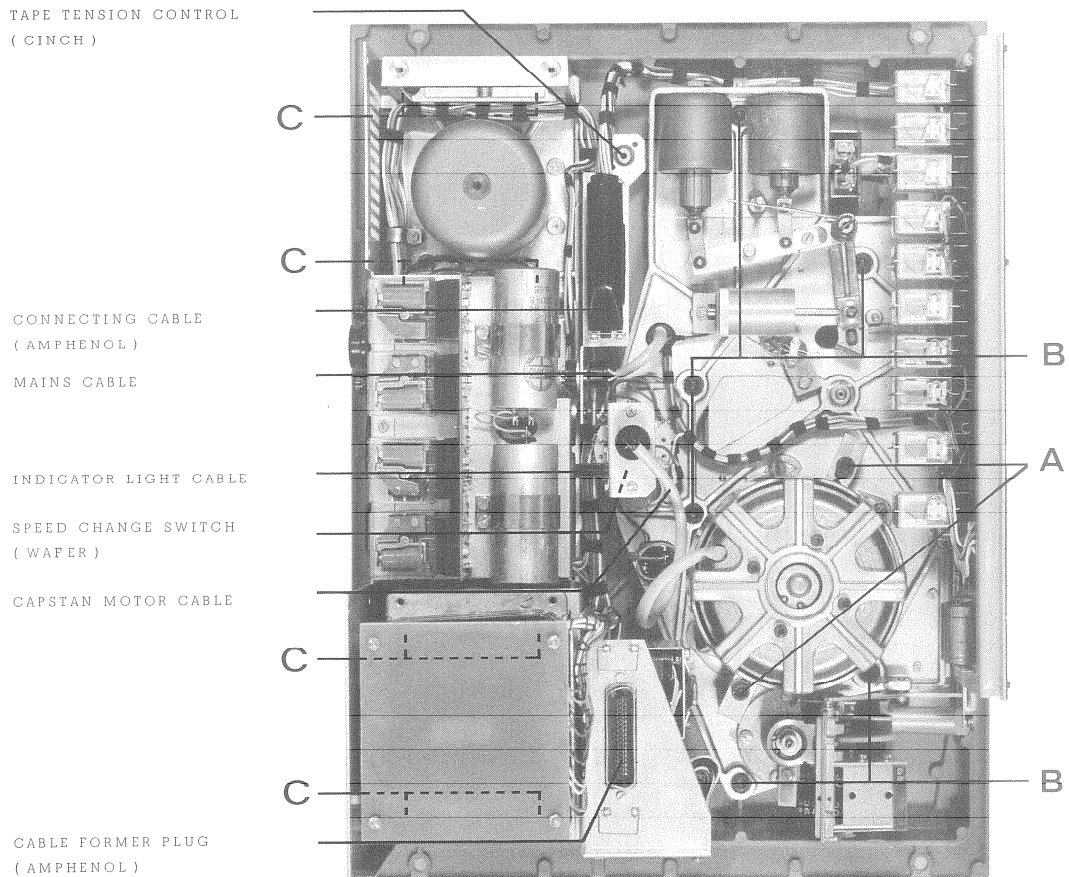
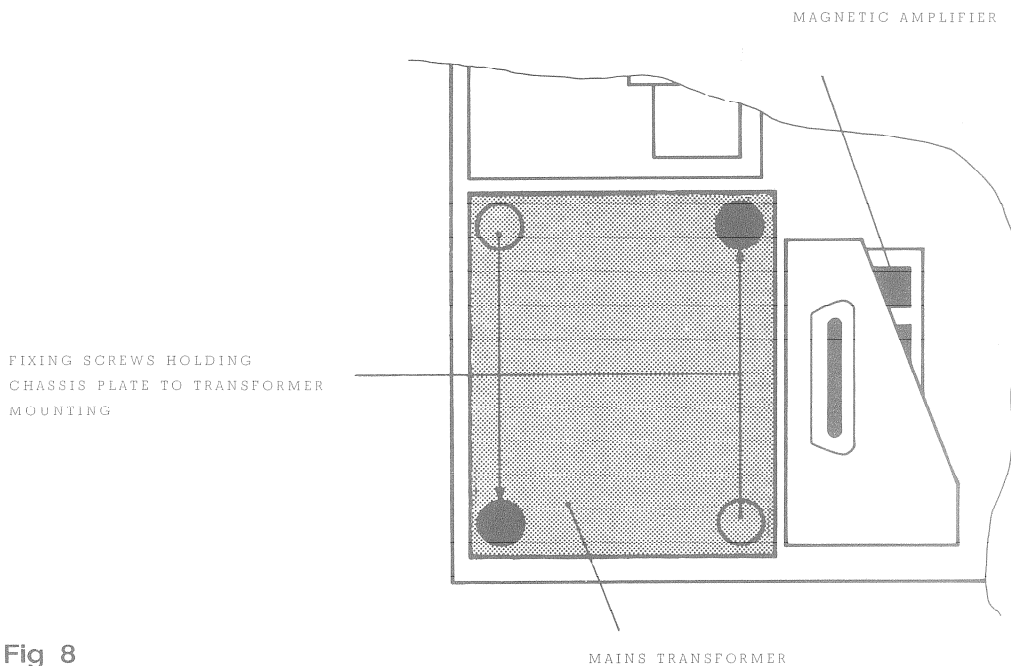

Fig 7
Fig 8
C.2.3. REMOVAL OF CAPSTAN MOTOR ASSY. (fig.7)
4. Of the eight allen screws C (fig. 7) unscrew the two which are marked in fig. 8 completely.